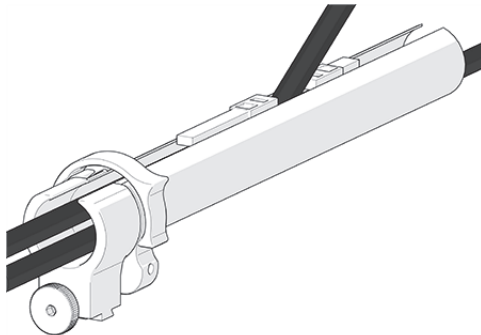

Figure 3-55 Flexibility
4. When necessary, the two zippers may be opened to allow any cables to exit the tube anywhere between the ends (see Figure 3-55 on page 70).